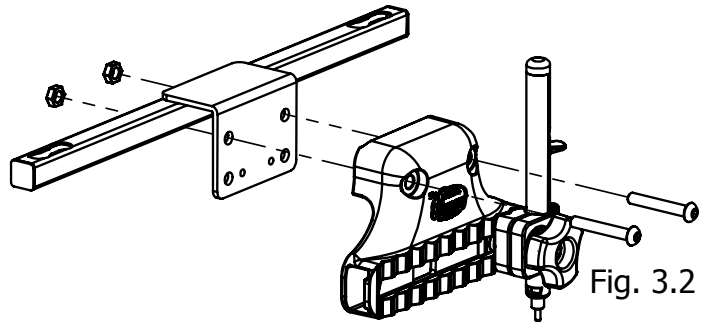

Fig. 3.2
Step 2: Set up your Pattern Perfect Bracket as shown in Fig. 3.2.